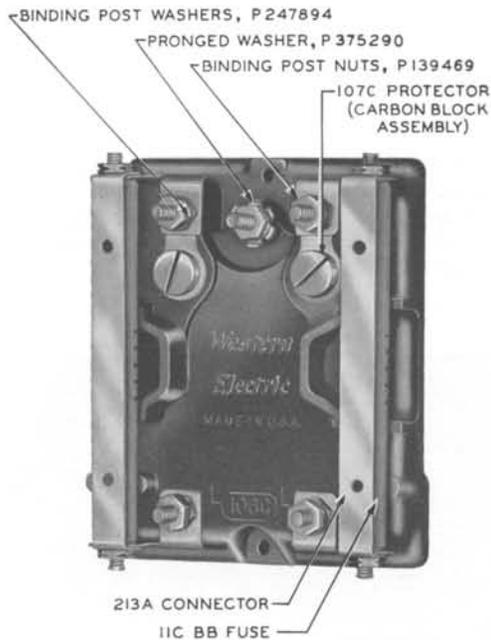

FIG. 5—106CA PROTECTOR
3.03 The 106CA protector shown in Fig. 5 is a fuseless conversion of the 106C fused protector. It should be used with a 93C or 93A protector mounting when installed outdoors. The protector, complete with 93C mounting, is coded 1293CA.